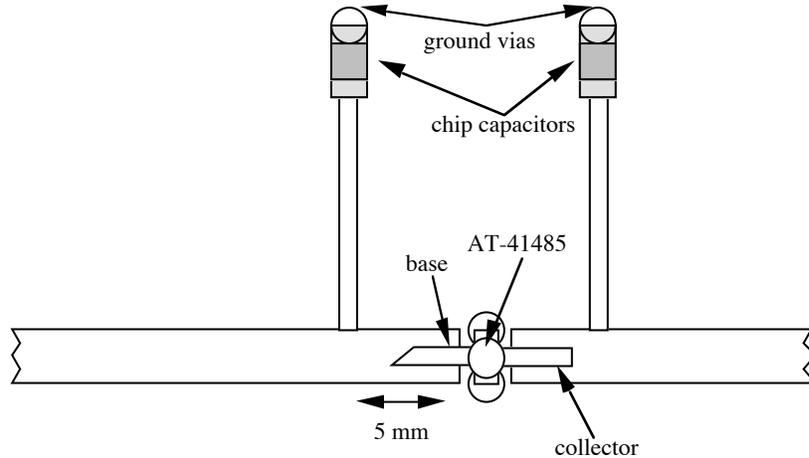

Figure 2. Physical layout of input and output transmission lines, bias stubs, and transistor.
- 1.) With the bias stubs designed, we’re ready to begin laying out the design of the amplifier circuit. Figure 2 below shows a view of the bias portion of the completed amplifier. Use linecalc to find the dimensions (width only) for the base and collector input lines, assuming a 50 Ω characteristic impedance at the design frequency. At this point the length of these lines is arbitrary and will be set later in the design process. Insert the transistor equivalent subcircuit, connect it to the input and output lines, and attach the bias stubs you’ve designed to the line at least 5 mm away from the transistor. To insert the transistor, select “Insert/Component/Component Library”, and click on the “Workspace Libraries” in the pop-up window. Within this library, right-click on the component name